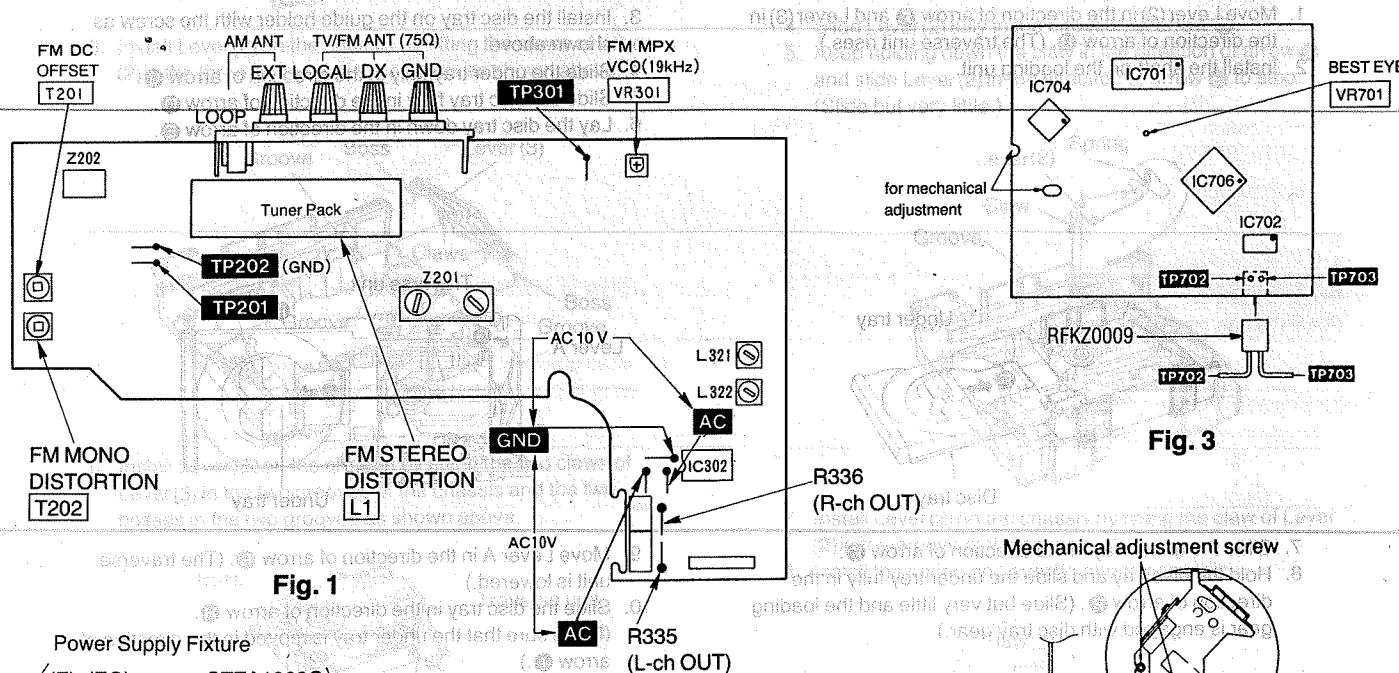
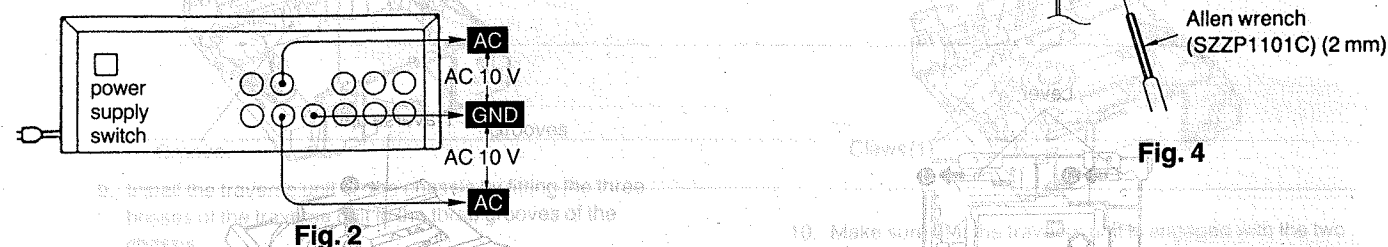

Fig. 1
Fig. 2
Procedure 1→2→3→4→ 5→19	 Fig. 1 1. Connect the F.P.C. boards to connector (CN401) and (JK301). 2. Remove the 4 screws (1-4). 3. Place the Loading unit as shown in Fig. 2. Note: Make sure not to damage the F.P.C. Boards.
To play a disc 1. Push the S606 (OPEN/CLOSE) switch so that the loading unit comes up. 2. Playing the test disc on the tray. Then, push the S606 (OPEN/CLOSE) switch to set the test disc. 3. Push the S610 (PLAY) switch to start the test disc play.  Fig. 2 4. When checking the solder surface of the operation P.C.B. and servo P.C.B., do as shown in Fig. 2.
- Test equipment connection is shown in figure 1, 5.
- Test equipment connection is shown in figure 1, 6.